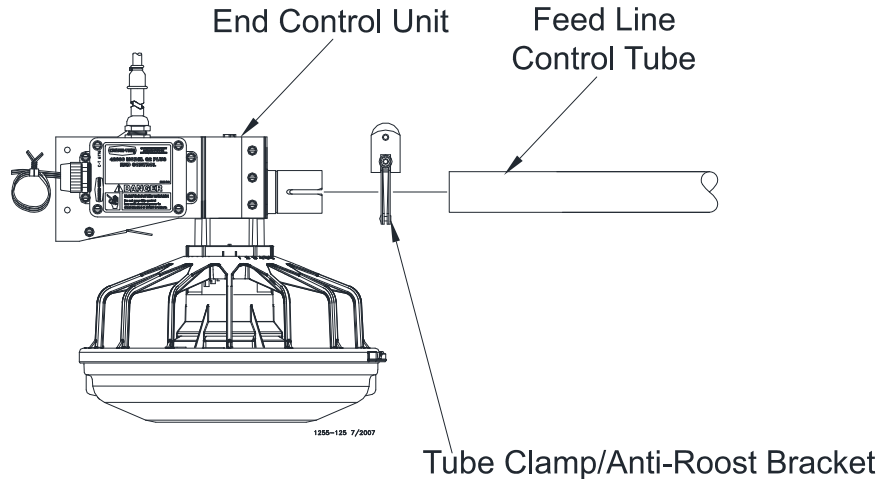

Figure 32. Connecting End Control Unit to the Feed Line Tube
1. Assemble the End Control Unit to the Feeder Line Control Tube using a clamp/anti-roost bracket. See **Figure 32. DO NOT INSTALL THE POWER UNIT AT THIS TIME.**